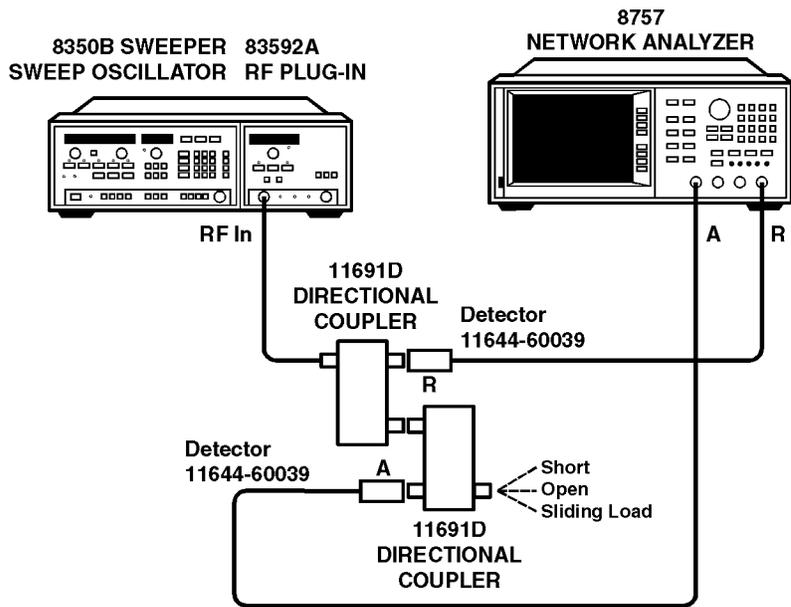
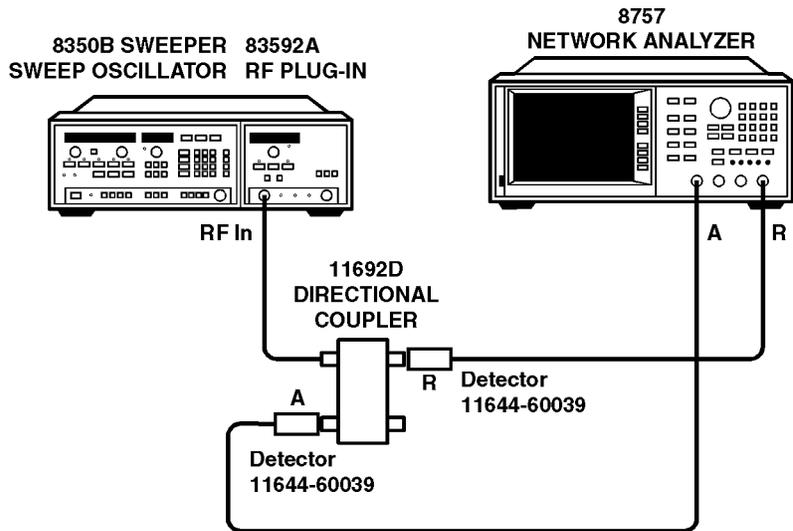

Figure 7 Test Equipment Setup for Agilent 11691D
Figure 8 Test Equipment Setup for Agilent 11692D
1. Connect the equipment as shown in Figure 7 on page 11 for the 11691D or Figure 8 on page 11 for 11692D.
Refer to Figure 7 and Figure 8 for Test Equipment Setup. All tests can be performed without access to the interior of the instrument.